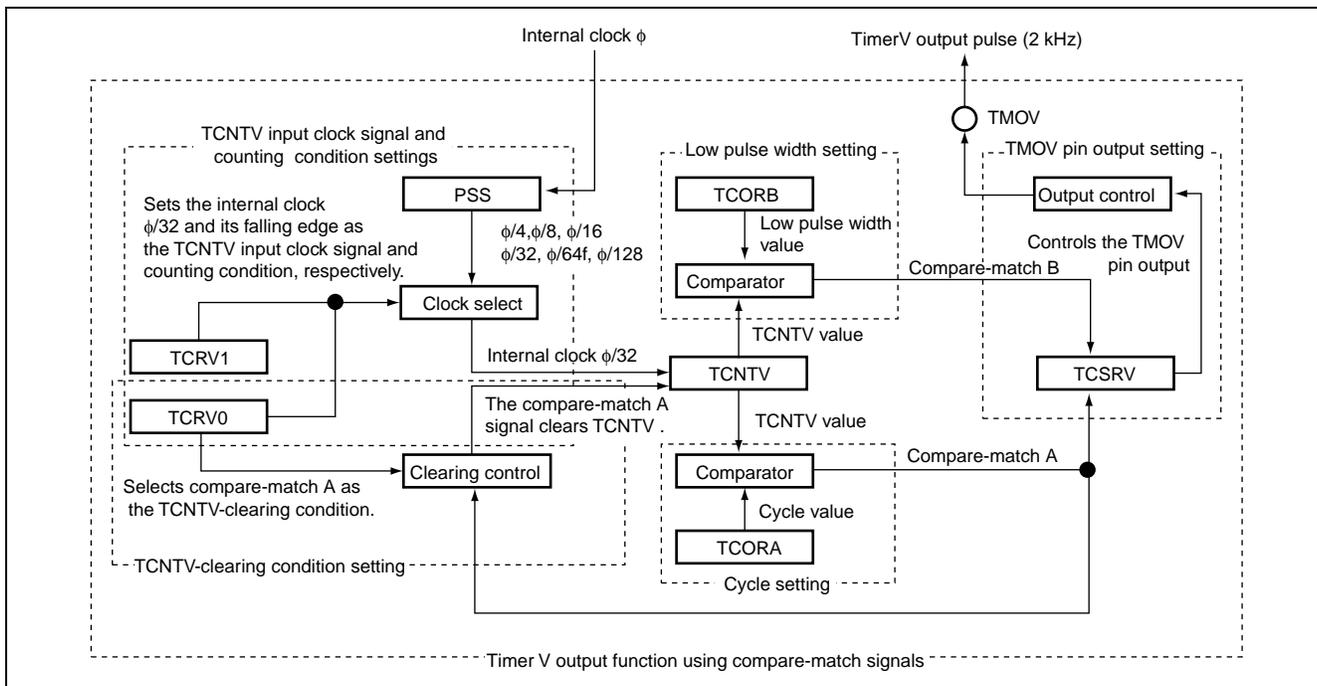

Figure 2.1 Using Timer V Compare-Match Signals to Drive an Output
1. In this sample task, driving of an output by the timer V compare-match function produces the 2-kHz pulses for the buzzer. Figure 2.1 shows the functional blocks used in the task. Table 2.1 describes the elements used and how they are specifically applied in this example.